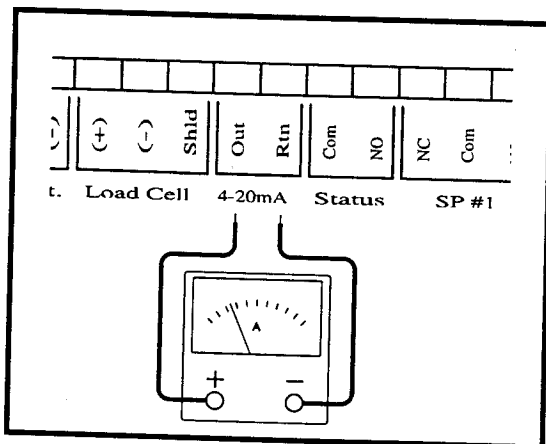

Figure 3-1
- (c) Connect an ammeter to the 4-20mA output terminals of the Model 300 as shown in Figure 3-1.